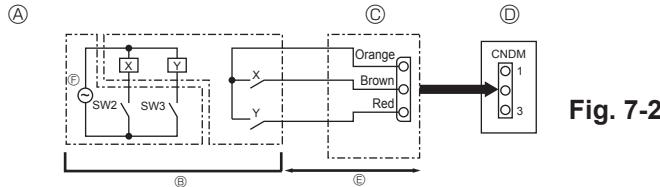

Fig. 7-2
7.2. Demand function (on-site modification) (Fig. 7-2)